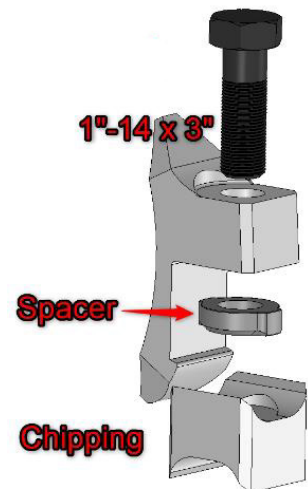

Figure 11
Chipping teeth are installed with a spacer. The spacer can sit only one (1) way. See Figure 11.
teeth are 3” (76 mm) long [Figure 11] and must be torqued to 400 lbf·ft (542 N·m).